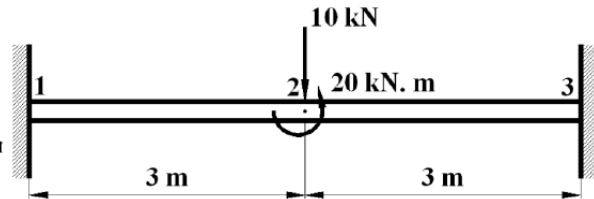

Figure P3.4
4. For the beam shown in **Figure P3.4**, determine the displacements and the slopes at the nodes, the forces in each element, and the reactions. Take $E = 210 \text{ GPa}$ and $I = 4 \times 10^{-4} \text{ m}^4$.